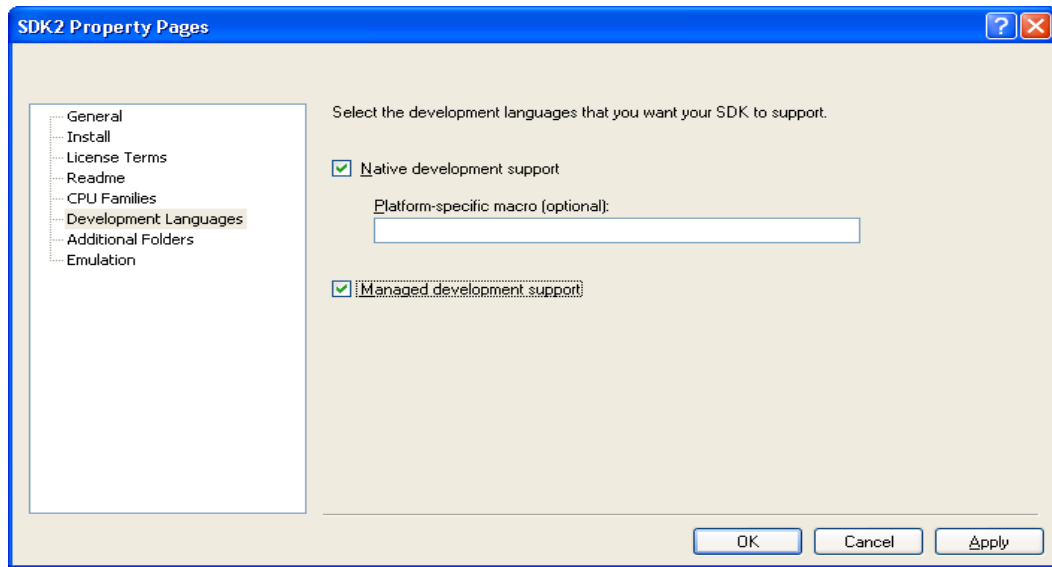

Figure 56. SDK Property Page
6. On the SDK Property Page, click on Development Languages and select both Native and Managed development support as shown in figure 56.